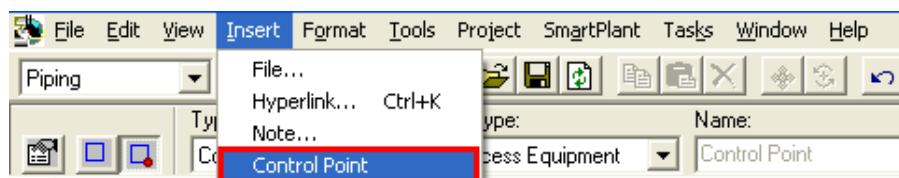

Figure 16. 25: Insert > Control Point Command
3. Select **Distribution Connection** point as **Control Point Parent**, on **1001-P_Spool1**, as shown in Figure 16. 26.